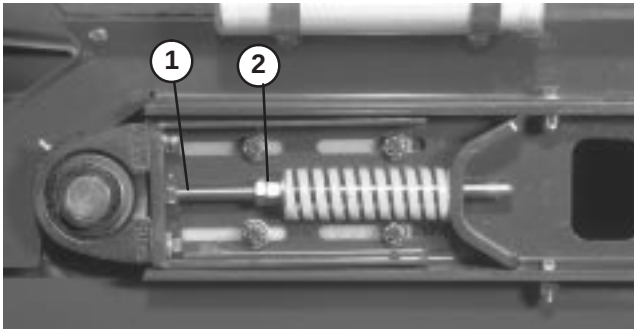

Figure 28
3. Loosen jam nuts and nuts on tension rod to release spring tension (Fig. 28).